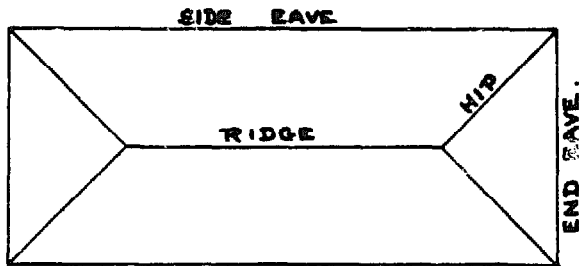

FIG. 510.
To lay out a hip roof, think of it as a figure of nine lines; the four eaves, the four hips, and the ridge. See Fig. 510
2. In Fig. 510 we have a plan or top view of the hip roof. This does not give the true length of the common rafter nor of the hip rafter. We now proceed to draw the end of the roof showing the true lengths of all members, the top cut angle for the jack rafters, the top cut for the purlines, the length of the jacks, etc. The whole end can be drawn on large paper, but half of the drawing will suffice here; it contains all essential information.